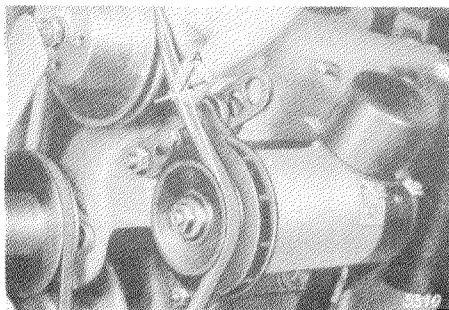

Figure 20-6/3
4. **Stretch the V-belt** by pressing the generator outwards and tightening the screws (1 and 2, 4 and 5) as well as the hex. nut (3) (see Figure 20-6/1).
The tension of the V-belt is correct, if it deflects by approx. **6 mm** when applying moderate pressure in the centre between generator and water pump pulley (see Figure 20-6/3). If necessary, correct the tension of the V-belt by loosening the screw (4) (see Figure 20-6/1).